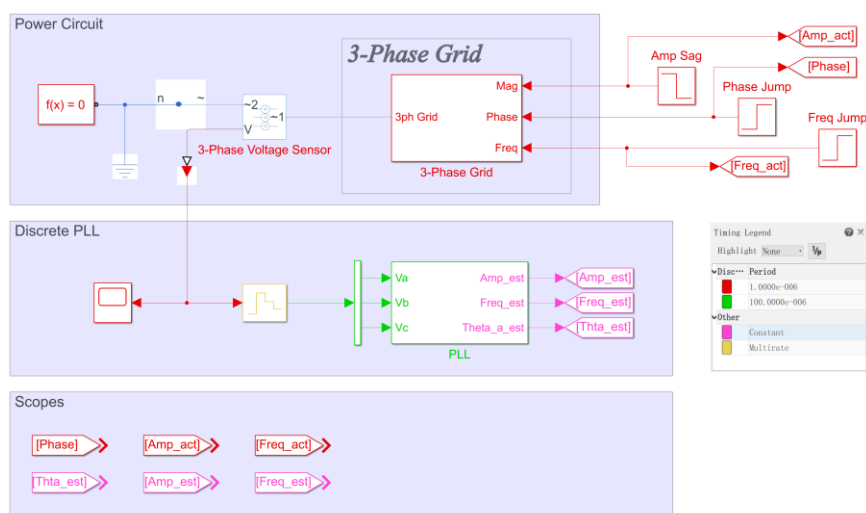

Figure 2. Basic Simulink template.
- You are provided with a basic template in Simulink as shown in Figure 2 to help saving time and build your system. The solver and the fundamental step size are already configured in this template for your convenience.